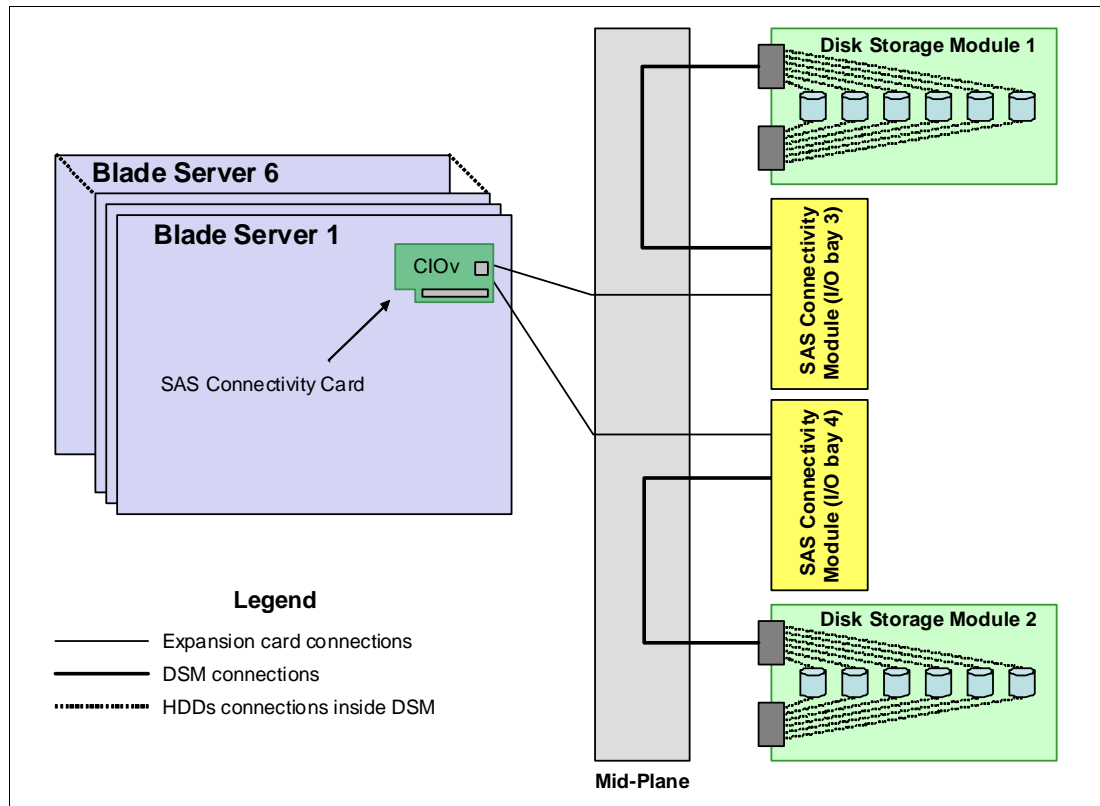

Figure 5-9 SAS I/O connections with two SAS Connectivity Modules installed
Figure 5-9 shows a sample connection topology for basic local storage with two SAS Connectivity Modules installed.
- ▶ When creating a RAID 1 array, span both disk storage modules. This configuration maximizes the availability of data if one of the paths to the disks is lost, because there is only one connection to each disk storage module, as shown in Figure 5-9 on page 508.